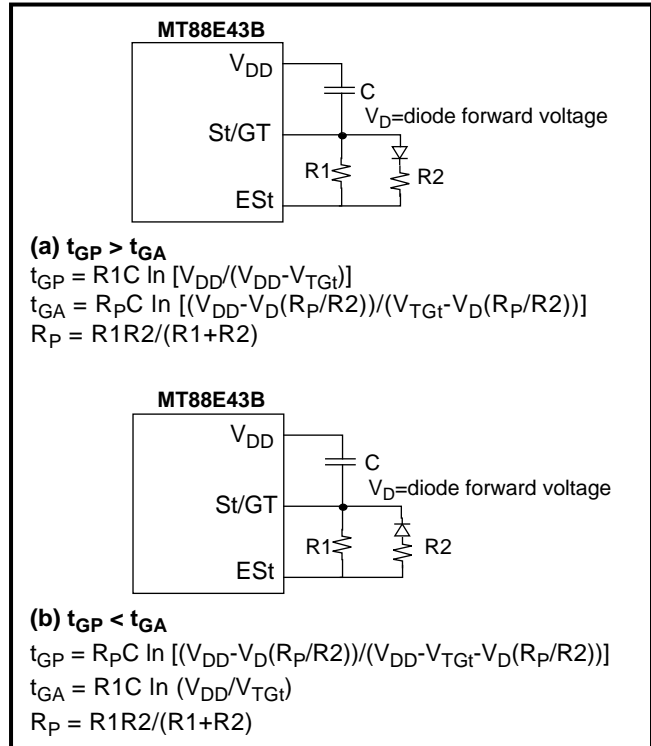
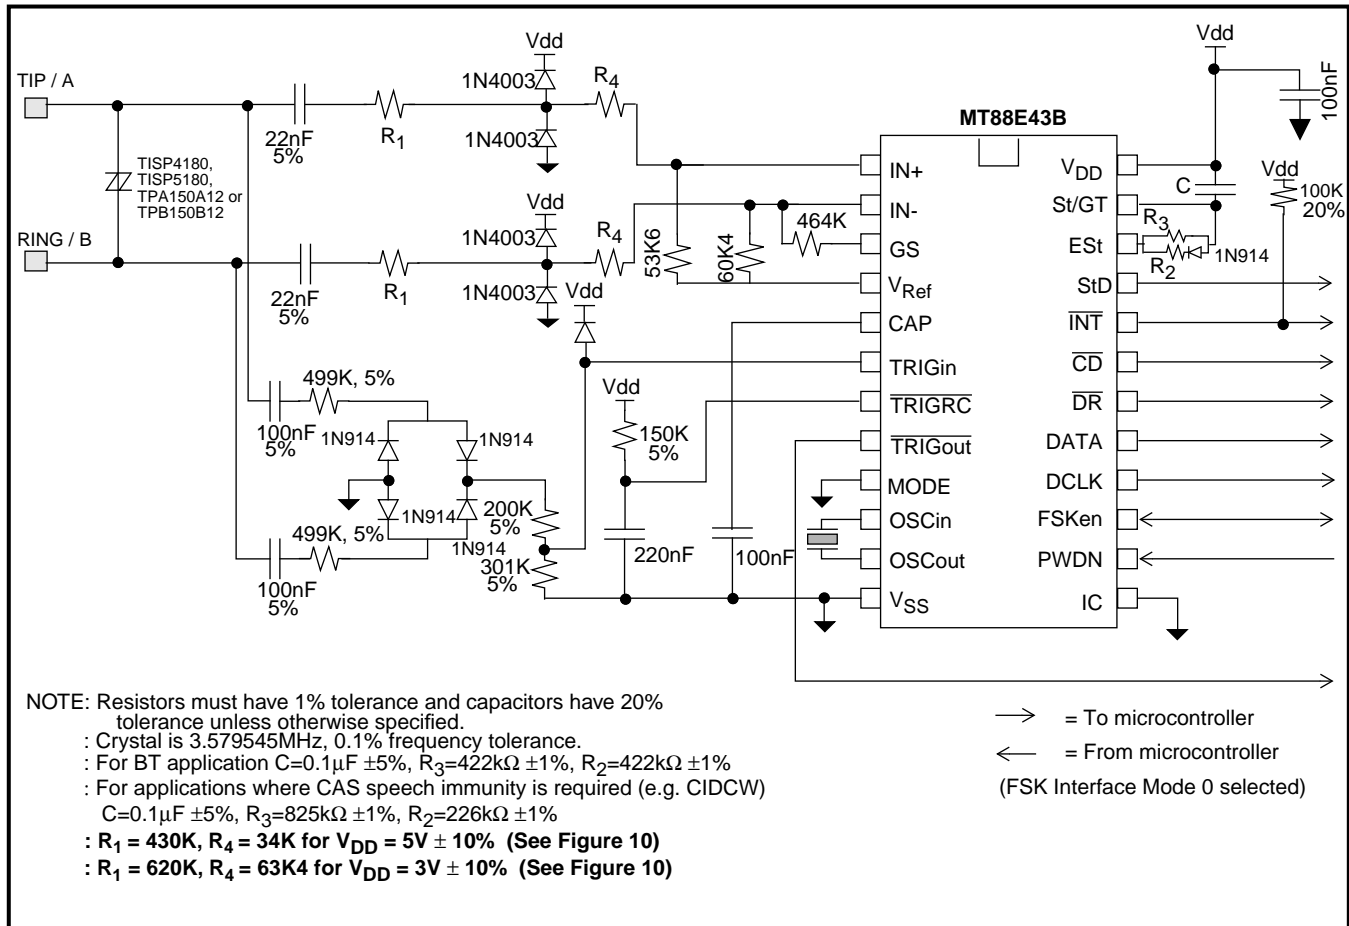
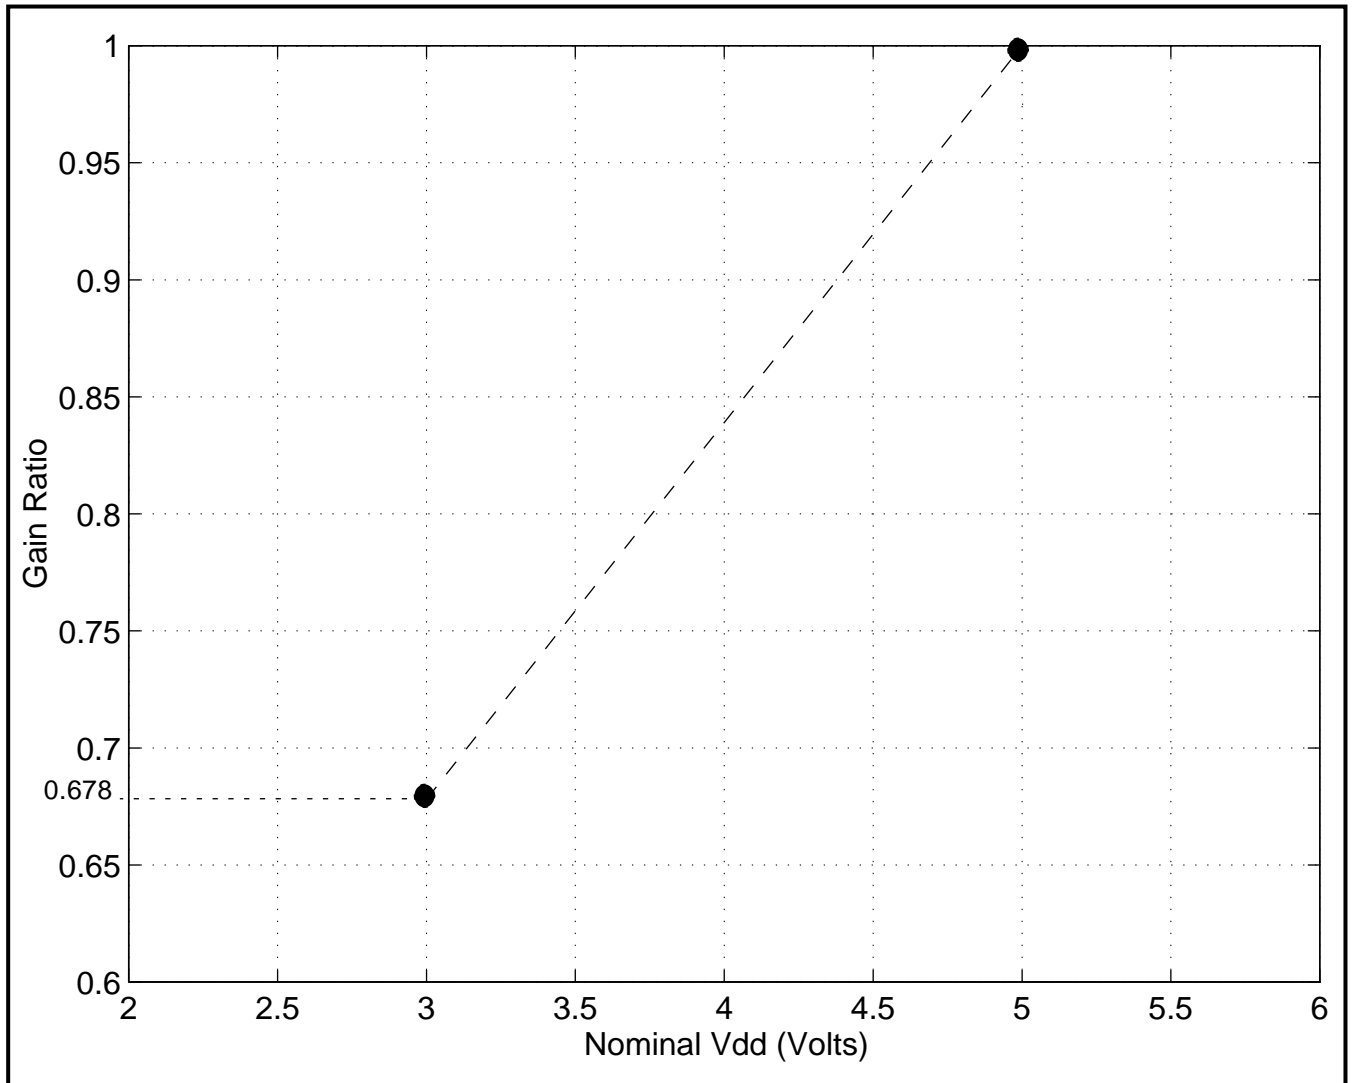

Figure 5 - Guard Time Circuits with Unequal Times
Figure 9 - Application Circuit
Figure 10: Gain Ratio as a function of Nominal Vdd
BT specifies that the idle state tone alert signal recognition time should not be less than 20ms when both tones are used for detection. That is, both tones must be detected together for at least 20ms before the signal can be declared valid. This requirement can be met by setting the t_{GP} (refer to Figure 5) to at least 20ms.
BT also specifies that the TE is required to apply a DC wetting pulse and an AC load 15-25ms after the end of the alerting signal. If $t_{ABS} = t_{DA} + t_{GA}$ is 15 to 25ms, the DC current wetting pulse and the AC load can both be applied at the falling edge of StD. The maximum t_{DA} is 8ms so t_{GA} should be 15-17ms. Therefore, t_{GP} must be greater than t_{GA} . Figure 5(a) shows a possible implementation. The values in Figures 9 and 11 ($R2 = R3 = 422K$, $C = 0.1\mu F$) will meet the BT timing requirements.
The circuits shown in Figures 9 and 11 are application circuits for the MT88E43B. As supply voltage (V_{DD}) is decreased, the threshold of the device's tone and FSK detectors will be reduced. Therefore, to meet the BT or Bellcore tone reject level requirements the gain of the input opamp should be reduced according to the graph in Figure 10. For example when V_{DD}=5V (+/- 10%), R₁ should equal 430kΩ and R₄ should equal 34kΩ; and if V_{DD}=3V (+/- 10%) R₁ should equal 620kΩ and R₄ should equal 63.4kΩ. Resistors R₁ and R₄ are shown in Figures 9 and 11.
The circuit shown in Figure 9 illustrates the use of the MT88E43B in a proprietary system that doesn't need to meet FCC, DOC, and UL approvals. It should be noted that if glitches on the Tip/Ring interface are of sufficient amplitude, the circuit will falsely detect these signals as ringing or line reversal.
Note: In the application circuits shown in Figures 9 and 11, the Gain Ratio of MT88E43B opamp is
3. Tip/Ring signal level. Input opamp configured to 0dB gain at V_{DD}=5V+/-10%, -3.38dB gain at V_{DD}=3V+/-10%. (see Figure 10)